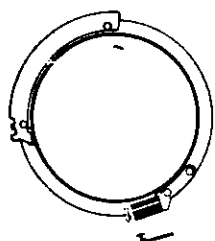

Fig. 45
- 1) When replacing following parts, carefully cut the contacts as shown in Fig. 45, 46, 47, 48 and assemble them.
(A) F stop ring assy (Fig. 45).